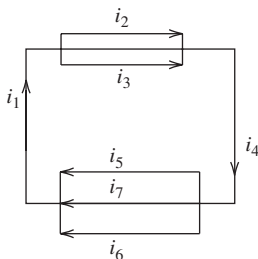

FIGURE P2.24 Circuit for Problem 2.24.
2.24 (A) Use KCL to show that i_1 is equal to i_4 in Figure P2.24.